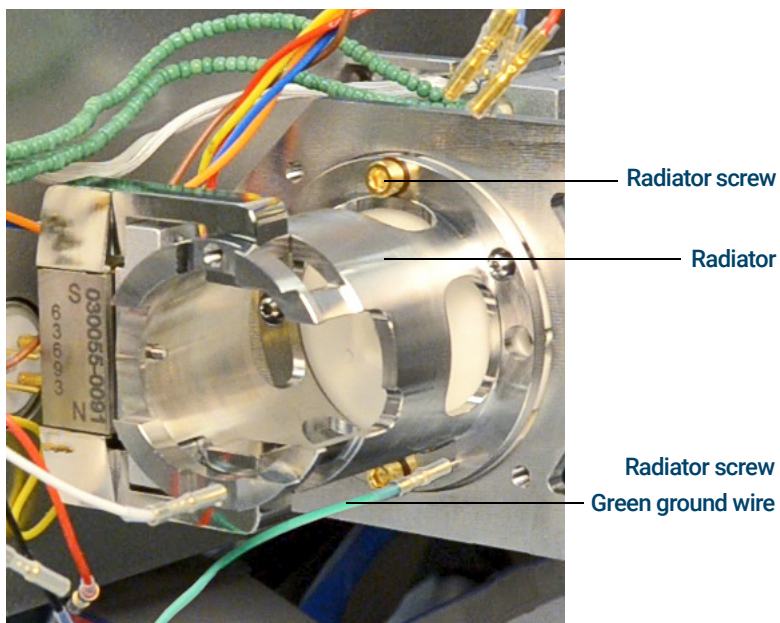

Figure 75. CI Source radiator
- 2 Connect the green ground wire to the radiator. (See **Figure 75.**)